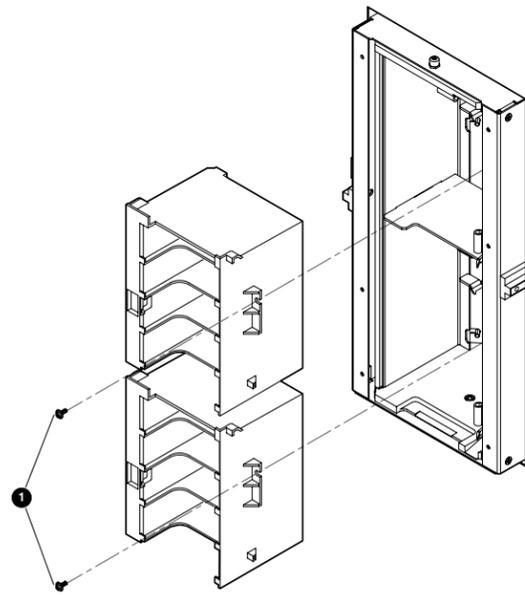

Figure 6: Securing the load pack
4. Secure the fixed load pack in the load port using the screws 1 provided in the upgrade kit (see Figure 6).
3. Remove the screws securing the upper and lower load packs. (See Figure 6.)